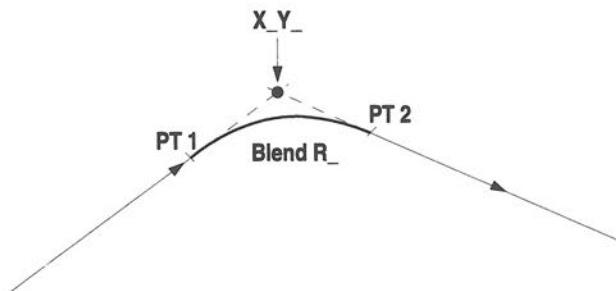

Figure 7-21
- X_Y_** is the intersection of the LINE and the next LINE or ARC in the tool path (see Figure 7-21)